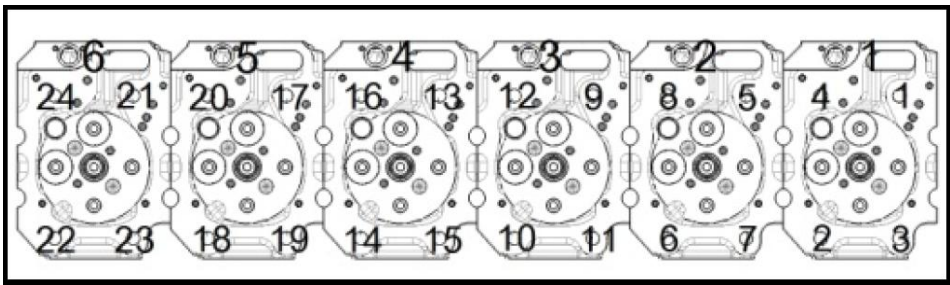

Figure 46.
- 3. Remove the cylinder secondary bolts (Figure 46, Item 3). Remove the washer (Figure 46, Item 5), Clamping blocks (Figure 46, Item 6 & 11) and end plate (Figure 46, Item 7).
- 4. Loosen and remove the cylinder head main bolts in the following order 1-24 (Figure 46).